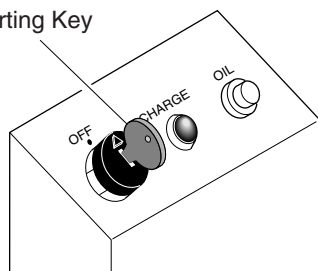

Figure 18 - Starting Key
- II. Turn the starting key clockwise to START position (see Figure 18, page 11). Hold it there until engine starts.